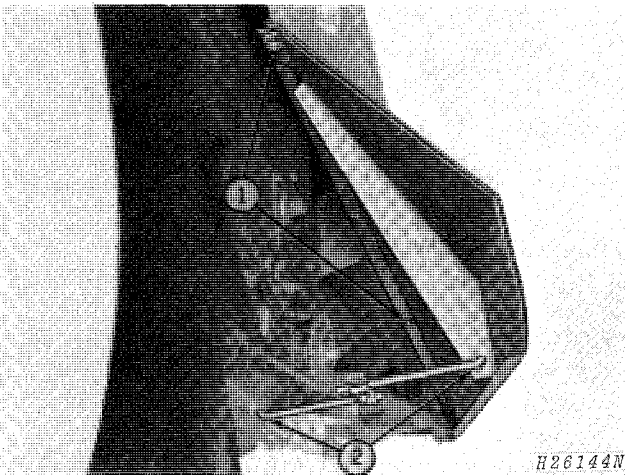

Fig. 88-Installing 344 Corn Head Wheel Shields
1. Bolt wheel shield to outer gatherer sheet with four 1/4 x 3/4-inch self tapping screws, 9/32 x 1 x .060-inch flat washers, and nuts (Fig. 88).
2. Insert offset end of shield support rod in corn head frame and other support rod in wheel shield. Loosen clamp on shield support rods and adjust shield for adequate drive wheel clearance (Fig. 88).